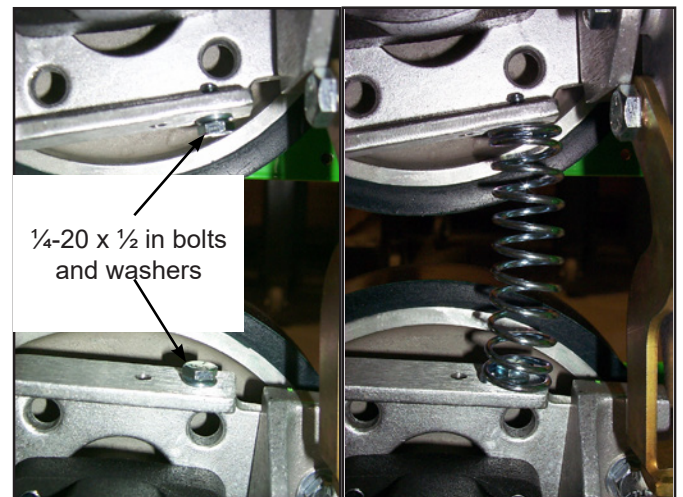

Figure 3. Install Drive Wheel Compression Spring
5. Install the drive wheel compression spring (Figure 3).